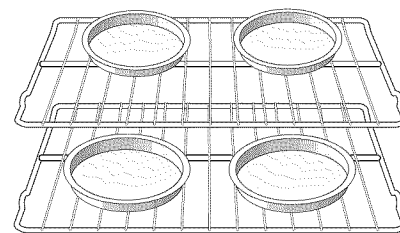
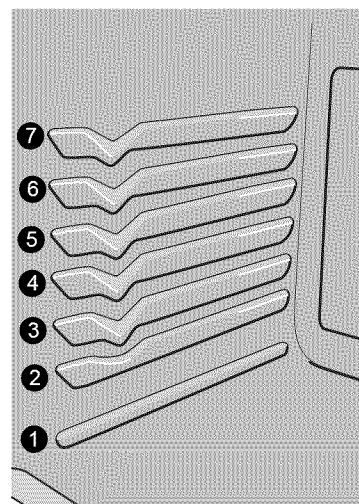

Figure 21: Baking on multiple levels
Figure 22: Oven rack positions
- For best results when baking cakes or cookies using two oven racks, place racks in positions 2 and 5 (See Figure 22) and place pans as shown in Figure 21.
- When baking using two oven racks, position bakeware as shown in Figure 21. Allow at least 2 inches (5 cm) of space between bakeware for proper air circulation.